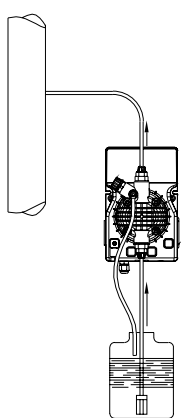
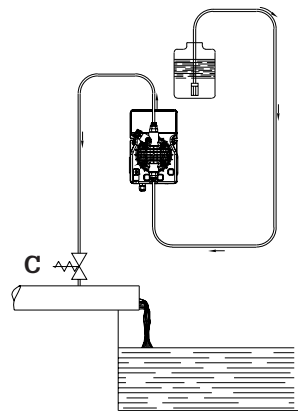

Fig. 5
Fig. 6
c.- Locate the pump as shown in fig. 5 bearing in mind that it may be installed either below or above the level of the liquid to be dosed, though the level difference should not exceed 2 meters. When the process plant in which the pump is installed is operating at atmospheric pressure (no back pressure) and the chemical tank is situated above the plant (Fig. 6), the condition of the injection valve should be checked at regular intervals, because excessive wear and tear could cause additive to drip into the plant even when the pump is shut down. If the problem persists, install a properly calibrate counter-pressure valve (C) between injection point and the valve. In the case of liquids that generate aggressive vapours, do not install the pump above the storage tank unless the latter is hermetically sealed.